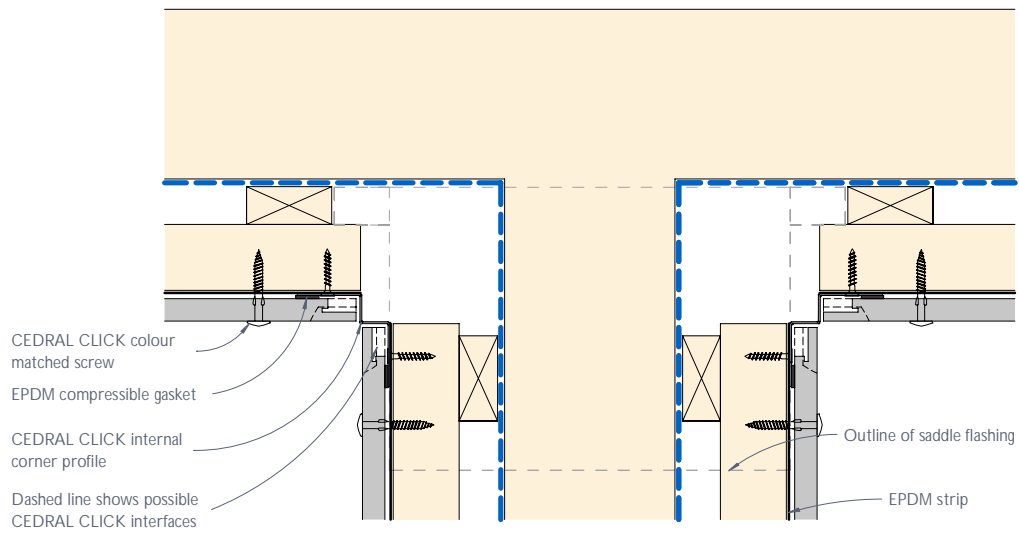

Figure 35: Parapet junction - Plan view
- 2) Flush capping detail (Figure 35) will involve further maintenance requirement in order to maintain the seal at the interface with the panel. Any deterioration of the sealant may result in panel staining, and will compromise the weatherproofing performance. Use UV stable and resistant external grade sealant.